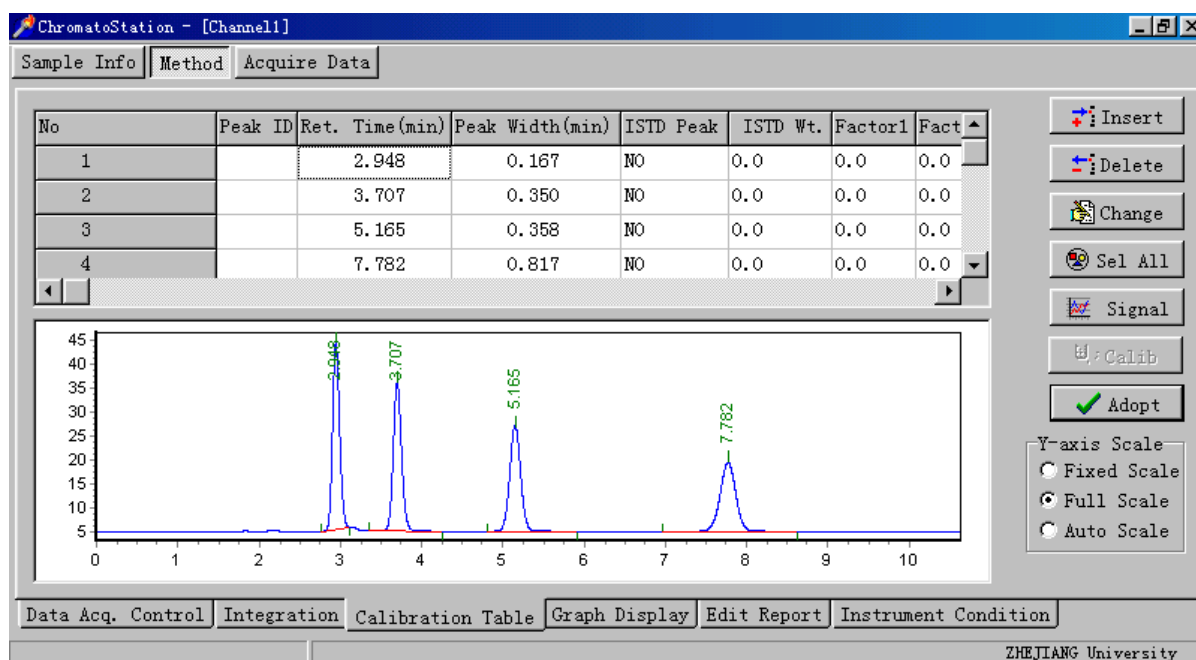

Figure C-230. Dialog Box for Editing the Calibration Table
3. The Dialog Box for editing the calibration table appears as shown in Figure C-230.